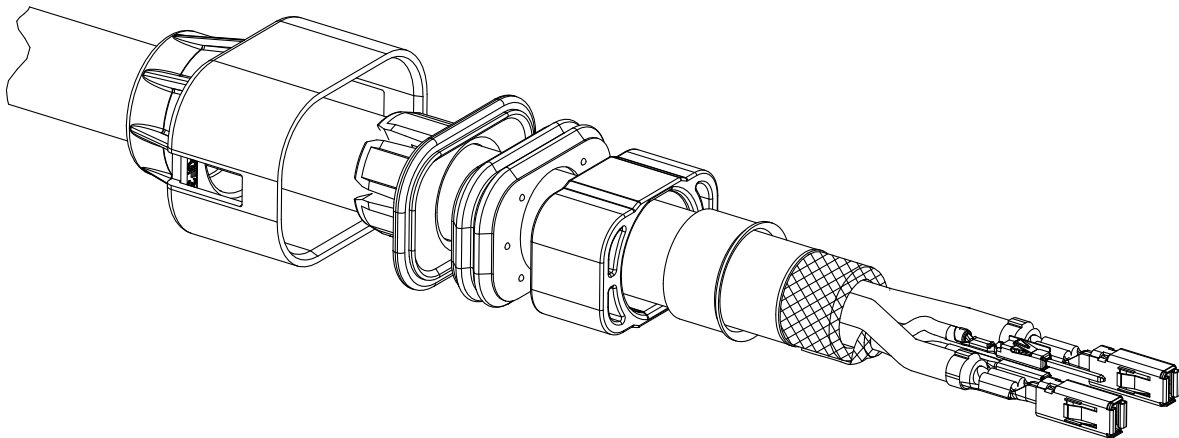

Figure 13
11. Insert the receptacle contacts over the exposed conductor strands and crimp as shown in Figure 13. Refer to Application Specification 114-18148-1 for specific crimp information. Locate the contact to be crimped in the appropriate tooling according to the instructions packaged with that tooling. Detailed instructions covering the placement of contacts in the tooling and the use of such tooling is packaged with each tool. See Section 5, TOOLING.